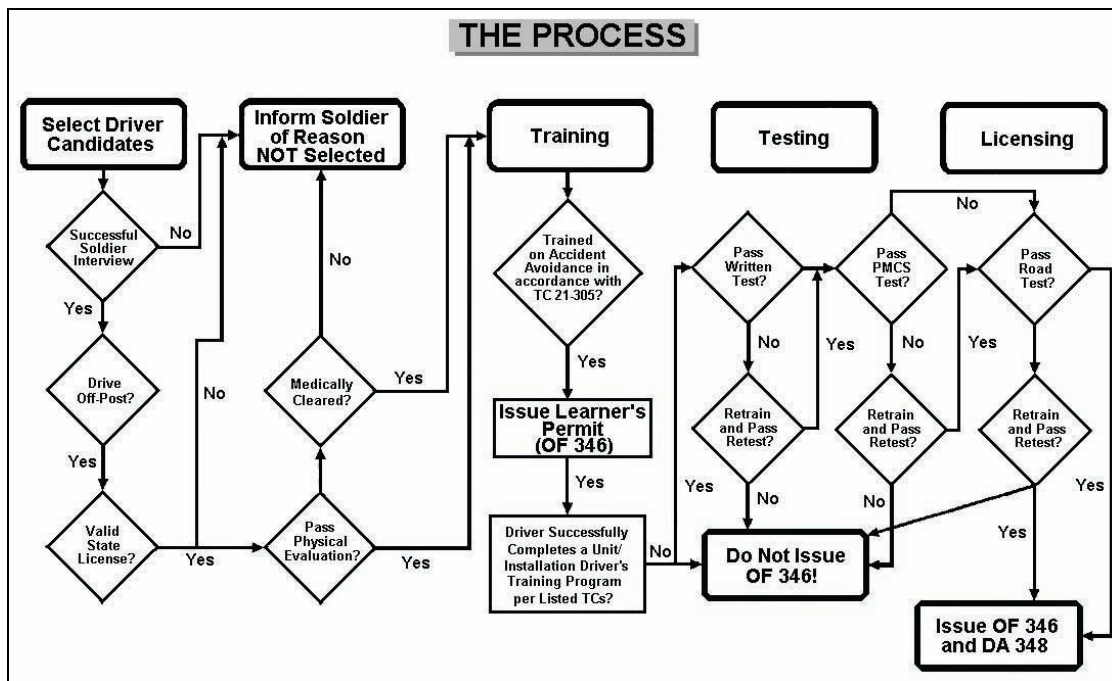

Figure 3-41. The Driver/Operator Training Process
1. Conduct preparations for driver/operator selection, training, and testing (see Figure 3-41).